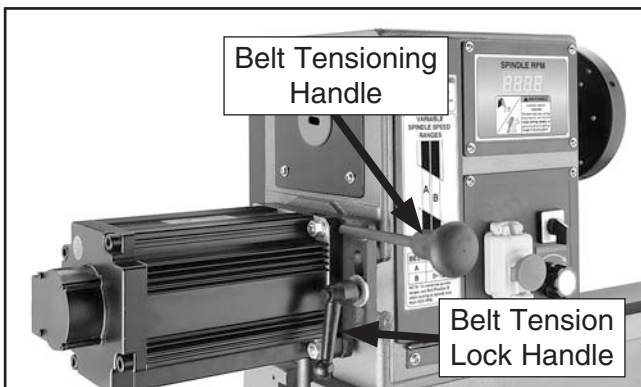

Figure 30. Motor tensoning handle and tension lock handle.
3. Loosen the belt tension lock handle (**Figure 30**).
4. Use the belt tensioning handle (**Figure 30**) to lift the motor assembly all the way up, then re-tighten the belt tension lock handle—this will hold the motor in place while you change the belt position.